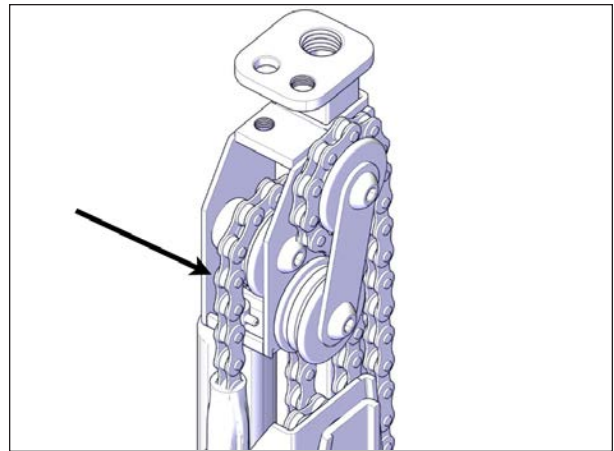

FIGURE 92: JACK CHAINS
9. Inspect the chains for signs of deterioration. If this is the case, please call your local Covana dealer immediately see Figure 92.